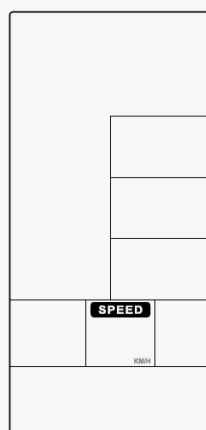

Figure 50
1. Hold on STOP & ENTER key for 2s, buzzer will sound 1 long beep. DISTANCE keep lighting up, M/KM flash once per second (Figure 50~51).